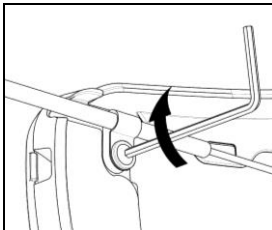
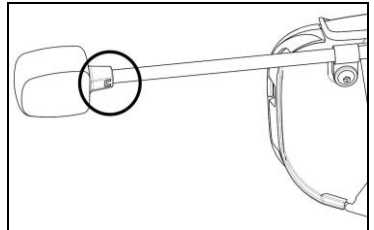

Fig. 42
Fig. 43
- Position the microphone on the left side of the helmet, screwing in the screw in the small shell frame (Fig. 42). Make sure that the side of the microphone with the caption “n” is facing the inside of the helmet (Fig. 43).